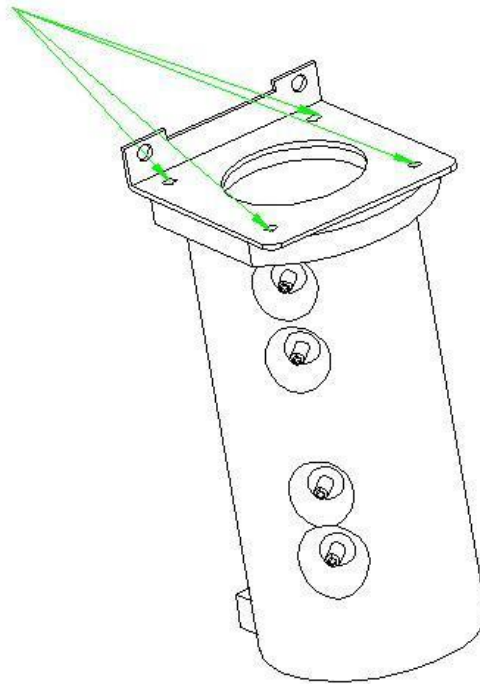

Figure 5-4 Disassembly the airproof washer
- 2) Loosen the 4 screws on the installation board of pressure syringe, take out the broken airproof washer (O type), install a one to the original position and fix it (smear the inside and outside of the washer with airproof lubricating grease), as shown in figure 5-4.